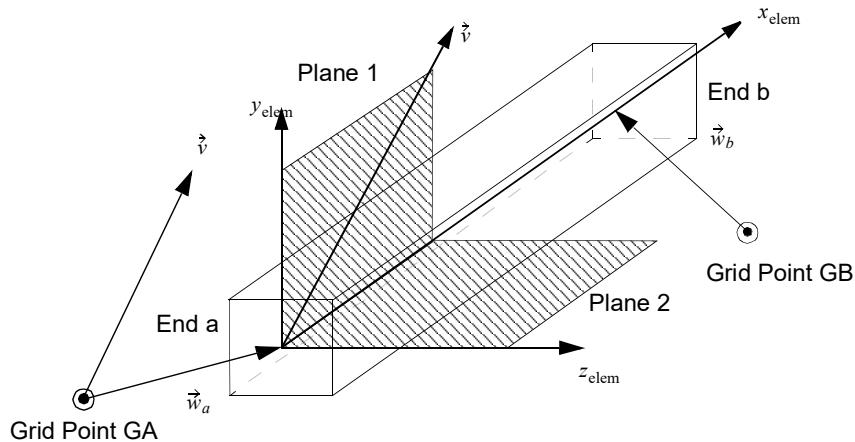
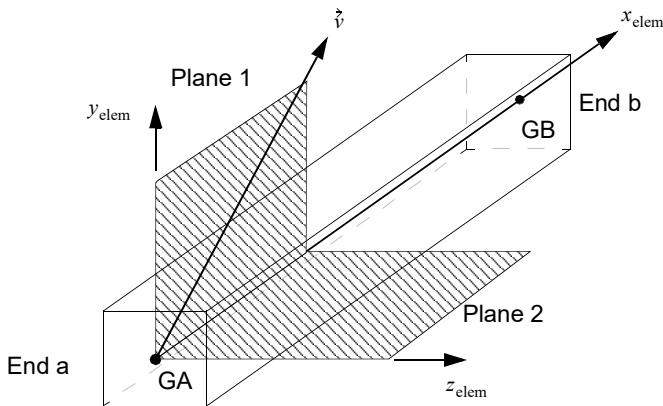

Figure 9-11 CBAR Element Geometry with Offsets
Figure 9-12 CBAR Element Geometry without Offsets
PA, PB	Pin flags for bar ends A and B, respectively. Used to remove connections between the grid point and selected degrees-of-freedom of the bar. The degrees-of-freedom are defined in the element's coordinate system (see Figure 9-11). The bar must have stiffness associated with the PA and PB degrees-of-freedom to be released by the pin flags. For example, if PA = 4 is specified, the PBAR entry must have a value for J, the torsional stiffness. (Up to 5 of the unique Integers 1 through 6 anywhere in the field with no embedded blanks; Integer > 0.) Pin flags combined with offsets are not allowed for SOL 600. Pin flags are not allowed in SOL 700.
W1A, W2A, W3A W1B, W2B, W3B	Components of offset vectors \vec{w}_a and \vec{w}_b , respectively (see Figure 9-11) in displacement coordinate systems (or in element system depending upon the content of the OFFT field), at points GA and GB, respectively. See Remark 7 and 8 . (Real; Default = 0.0) Offsets are not allowed in SOL 700.
- Figure 9-11 and Figure 9-12 define bar element geometry with and without offsets: